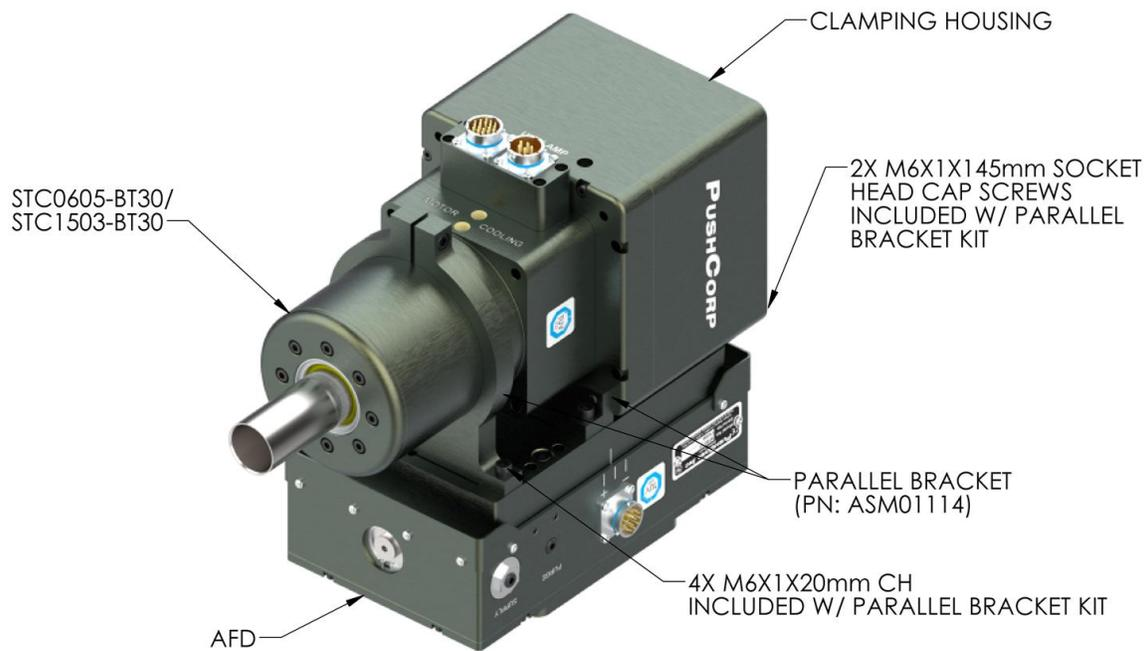

Figure 1: Spindle Motor Parallel-Axis Configuration
The Parallel-Axis configuration is shown in Figure 1, where the motor attaches to the AFD Carriage with a Parallel Bracket. The Parallel Bracket is positioned on the Carriage and attached using the four (4) supplied M6x1x20mm Socket Head Cap Screws. The motor is then attached to the Parallel Bracket, as shown, with two (2) M6x1x20mm Socket Head Cap Screws into the front of the Motor Housing. Two (2) M6x1 Socket Head Cap Screws pass through the Clamping Housing/Mounting Plate (length is dependent on motor SMxxxx = 25mm, STCxxxx-BT30 = 145mm). The fasteners must be tightened to the torque specified in Section 4.0.